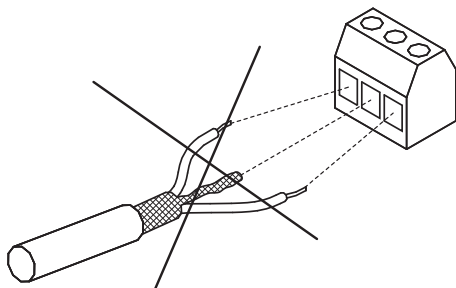

Fig. 46 Do not twist the screen ends.
- Avoid terminating the screen by twisting the ends. See fig. 46. Use cable clamps or EMC screwed cable entries instead.